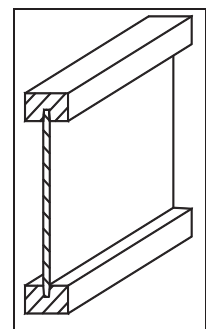
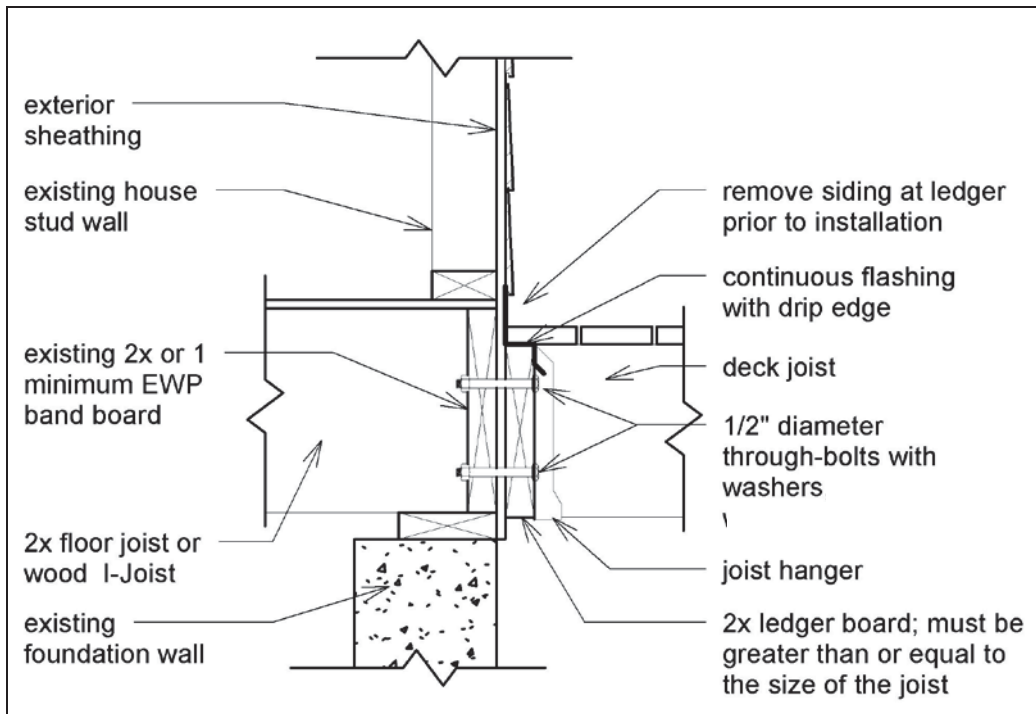

FIGURE 13: WOOD I-JOIST PROFILE
FIGURE 14: ATTACHMENT OF LEDGER BOARD-TO-BAND BOARD
- The attachment shall be in accordance with FIGURE 14.
- Continuous flashing with a drip edge, as shown in FIGURE 14, is required at the ledger board when connected to a wood band board.
Many homes constructed with wood I-joists, as shown in FIGURE 13, have a 1" or thicker engineered wood product (EWP) band board capable of supporting a deck; see FIGURE 14. If a minimum 1" EWP or 2x band board is not present, then a free-standing deck is required. See *Free-Standing Decks* on Sheet 14 for more information.